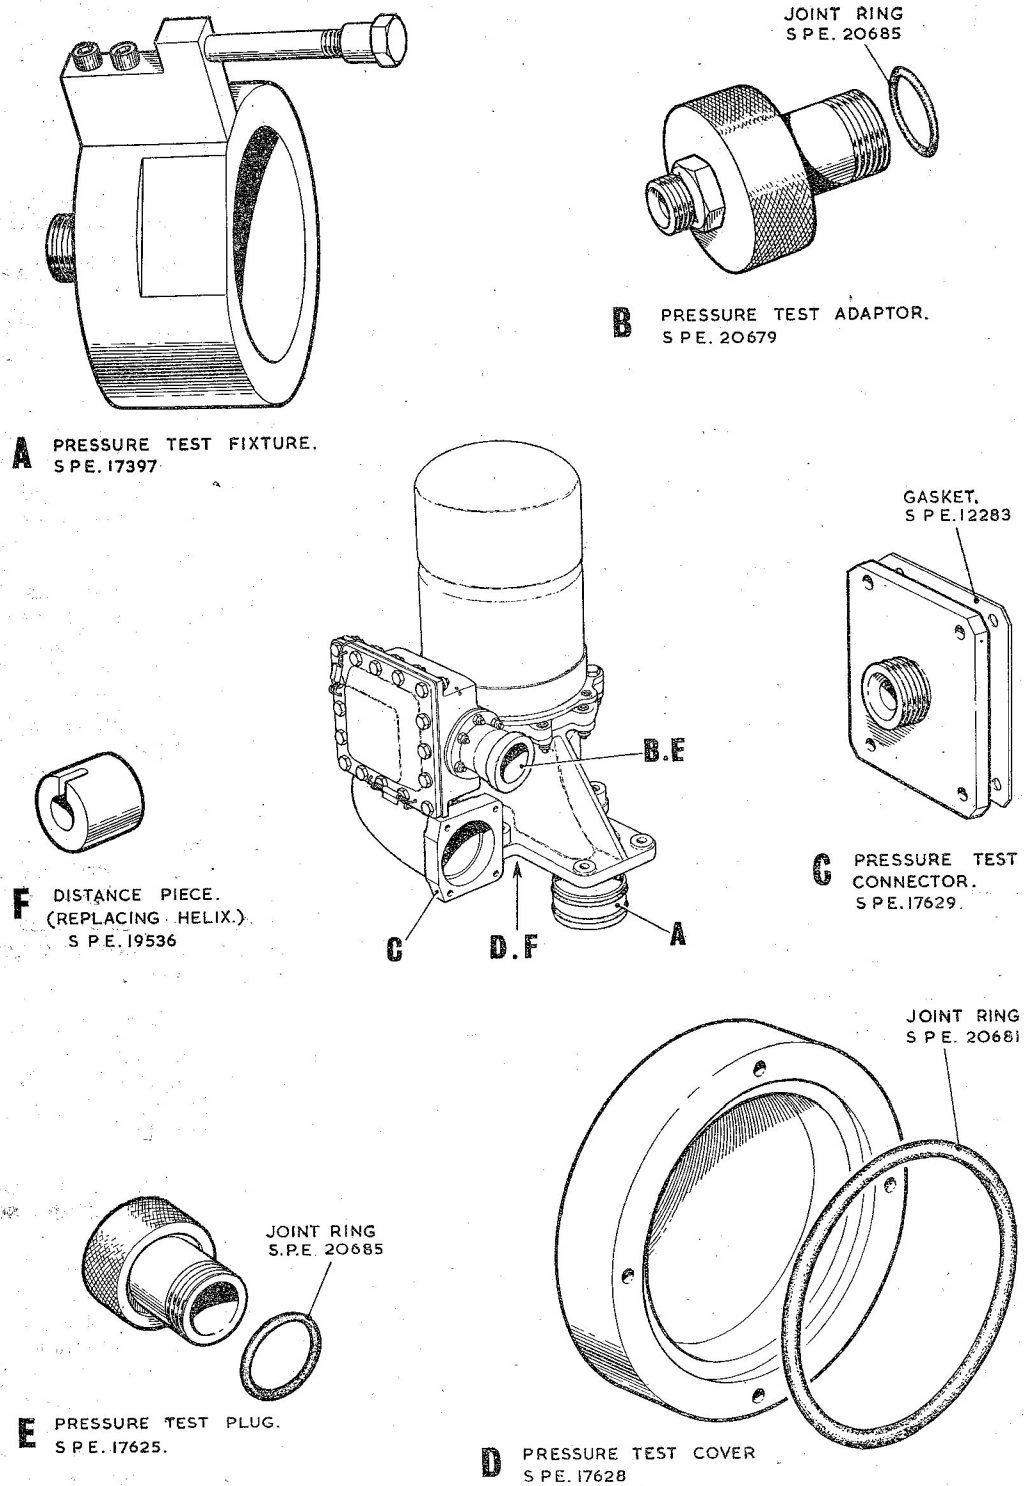

Fig. 11. Pressure test tools
(10) Allow potting compound to cure for a minimum period of 24 hours (48 hours is preferable).
(11) Fit the adapter SPE.20679 (fig. 11) to the electrical connection and with the capacitor tag ends of the lead assemblies (106) immersed in water, apply air pressure at 10 lb./in.² through adapter. Observe for leakage of air from between the insulation layers of the leads; leakage is not permissible.
(1) Using a depth micrometer measure the distance between the lower surface of the pump body casting (28) and the underside of the seal housing (43). Let this measurement be X.
(2) Measure the overall thickness of the selected impeller at its outer edge. Let this measurement be Y.
(3) Place shims (25) of 0.020 in. (0.5 mm.) total thickness on the spindle.
(4) Position the impeller. Fit distance piece SPE.19536 (fig. 11) over the armature spindle and tighten against the impeller with nut (35) and plain washer (34).
(5) Using the depth micrometer measure the distance between the lower surface of the pump body casting and the underside of the impeller. Let this measurement be Z.
(6) The clearance between the impeller (27A) and the seal housing (43) is given by $X - (Y + Z)$. If this clearance is not within the specified limits, increase or decrease the shims (25) and re-check the gap as in subpara. (4) and (5) above.
(2) Remove the impeller and retain the shims (25). Fit the spring (22) over the central spigot of the rotary seal ring (21) and ensure that it seats squarely against the flange.
(3) Locate the free end of the spring about the central spigot of the stainless steel impeller bearing, making sure that it bottoms in its seating.
(4) Refit the impeller shims (25) as previously selected. Assemble the rotary seal/impeller assembly carefully over the armature spindle until the rotary seal contacts the stationary (carbon) seal ring (45) previously positioned in the seal housing. Secure impeller with spacer SPE.19536 (fig. 11), plain washer (34) and self-locking nut (35).
Refer to fig. 11 for the positioning of the various pressure test fixtures detailed in the following paragraphs.
(2) Fit a gasket (109) and the pressure test connector SPE.17629 (fig. 11) to the delivery outlet of the pump body casting. Secure with four 2-B.A. x $\frac{3}{4}$ " screws and locknuts.
(1) Remove the spacer SPE.19536 (fig. 11) and fit the impeller helix (27B). Use stainless steel shims (26) between the centrifugal impeller and the helix so that the leading edge of the helix blades project 0.040 in. (Dim. C, fig. 6) beyond the open end of the helix shroud (40). Note that the helix